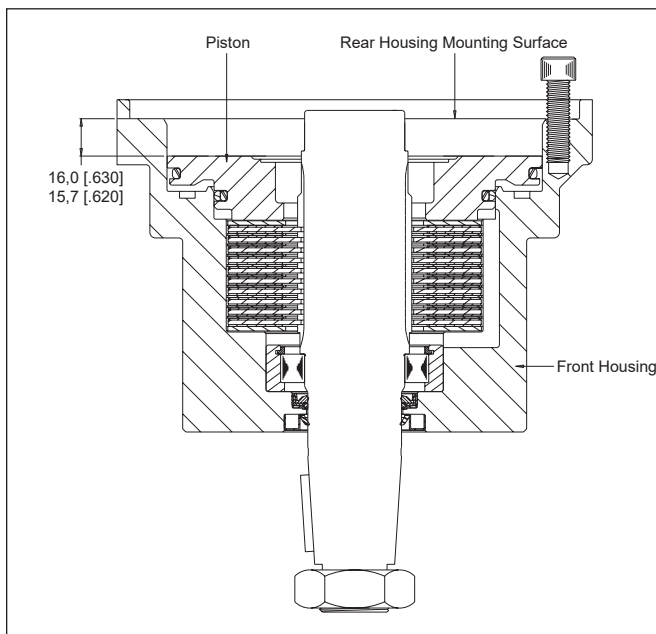

FIGURE 2
- I)** Install front housing bearing (16) into housing making sure that the snap ring that retains bearing rolls faces up. Making sure not to cut seal lip with shaft keyway, install shaft (35) into housing (15).
- J)** Install one disk stamping (18) into housing making sure that lugs or splines engage those in housing (15). Install one friction disk (17) engaging splines on disk with those on shaft. Alternate disk stampings and friction disks until all disks except thick disk stamping (19) are installed. Install thick disk stamping (19) lastly on top of disk assembly.
- K)** Install small O-Ring seal (5) and large O-Ring seal (7) into corresponding grooves in piston (20). Install small seal (6) and large seal (8) in corresponding grooves over O-Ring seals. Thoroughly coat seals and sealing surfaces of housing (15) with clean oil. With large O.D. side of piston (20) facing up, install piston (20) into housing (15) and evenly press piston down making sure not to pinch seals. (If the disks and disk stampings are going to be replaced, the stack up on the new disks must be between 15,7 - 16,0 [620 - .630]. Use Figure 2 for measuring reference.)
- L)** Install springs (21) on top of piston. Install O-Ring Seal (9) in groove in rear surface of housing (15). If rear shaft bearing (16) and spacer shim(s) (22) came out of rear housing (23), reinstall at this time by placing spacer shim(s) (22) into rear housing (23). Install rear shaft bearing (16) making sure that snap ring that retains bearing rolls faces out. Place rear housing (23) onto front of housing (15) lining up bolt holes. While holding motor assembly together, remove motor assembly from vise and place in arbor press. Press down on rear housing (23) until it contacts front housing (15) and lock press. Install eight capscrews (24) and torque to 61,0 Nm [45 ft. lbs.].
- M)** Install drive link (26) into end of shaft with tapered end facing up. Place body seals (10) in grooves in both sides of rotor (27). Place rotor (27) onto housing (15) with side of rotor with chamfer in splines facing housing (15). Place manifold (28) over rotor (27) with seal groove side up. Install manifold seal (11).